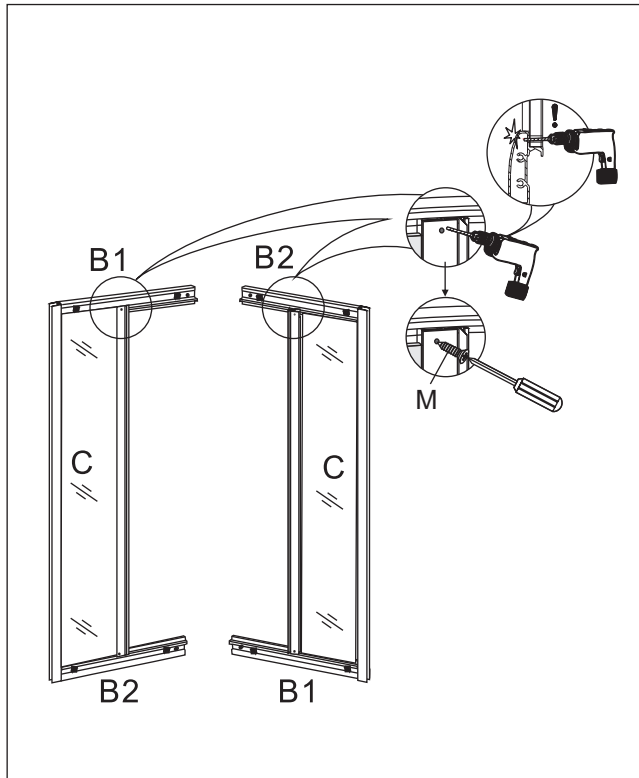

Fig.6
6a. Using a 3mm HSS drill bit, drill through the pilot holes in the top and bottom of the fixed panel seal profile, through the splash seal (K), into the top and bottom tracks. See **Fig.6**.
6b. Secure the fixed glass panel to the top and bottom tracks using screws ST4x16mm (M). See **Fig.6**.